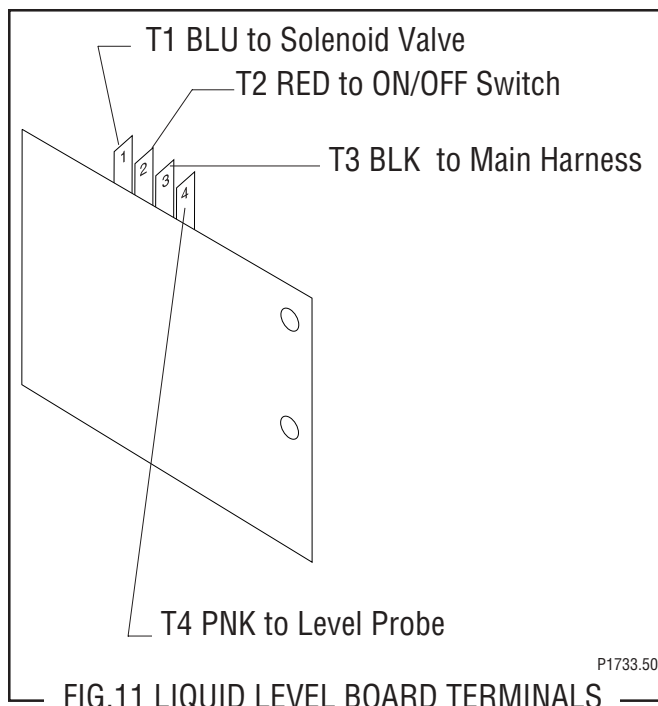

FIG.11 LIQUID LEVEL BOARD TERMINALS
7. Refer to Fig. 11 and reconnect the wires.